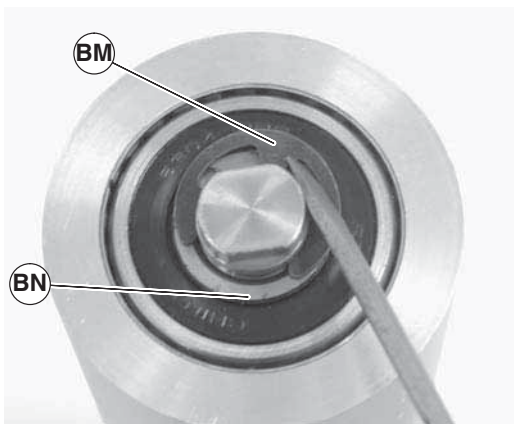

Figure 56
- Slide the shaft assembly (Figure 56, item BO) out of the pulley (BL).
6. Slide the shaft assembly (Figure 56, item BO) out of the pulley (CK).